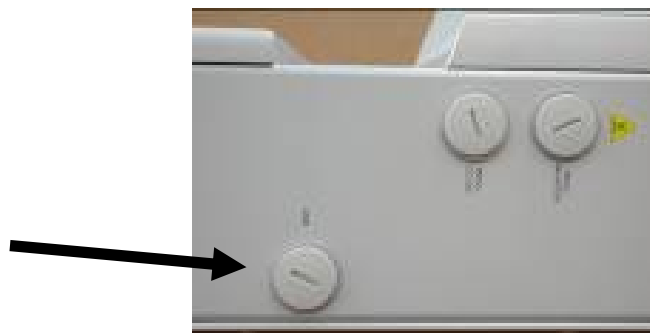

Fig.16 USB port location
- Data transmission via a USB cable. This type of connection is typically used when monitoring a single inverter and for maintenance purposes. To connect the USB cable, remove the waterproof plug at the bottom end of the inverter's right wall (Fig.16).